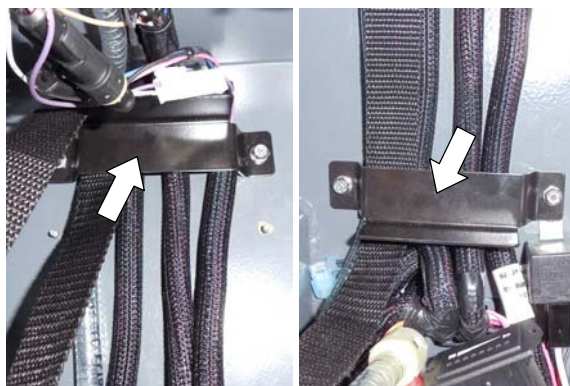

Fig. 3
3. Remove the top and bottom wire harness retainer brackets from machine (Figure 3).